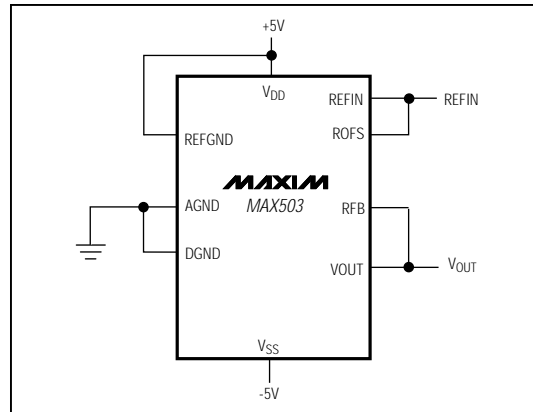

Figure 12. Four-Quadrant Multiplying Circuit
The MAX503 can be used as a four-quadrant multiplier by connecting ROFS to REFIN and RFB to VOUT, and using (1) an offset binary digital code, (2) bipolar power supplies, and (3) a bipolar analog input at REFIN within the range VSS + 2V to VDD - 2V, as shown in Figure 12.